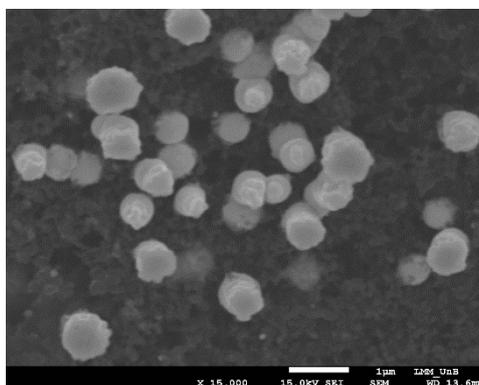

Figure S1. SEM image of the FA160300
- Image of the FA160300 (Figure S1) electrode that presented the biggest crystallite size. As can be observed, the structure of the Pt particles is similar to the FA120200.
- Image of the FA160100 (Figure S2). As in Fig. S1, the structure resembles to Fig. S1 and FA120200.